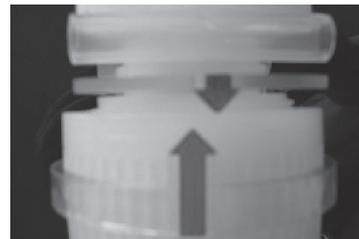

Figure 8
4. The connection can now be monitored for nut movement. If the red arrows become unaligned there has been a change in the torque of the nut and the connection should be inspected and re-tightened if necessary (Figure 8).